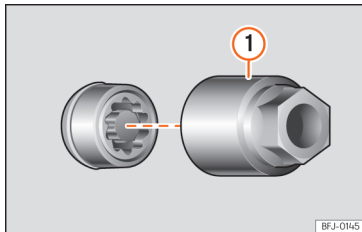

Fig. 36 Anti-theft wheel bolt with cap and adapter.
- Insert the special adapter »» Fig. 36 ① (vehicle tools »» page 37) onto the anti-theft wheel bolt and push it on as far as it will go.